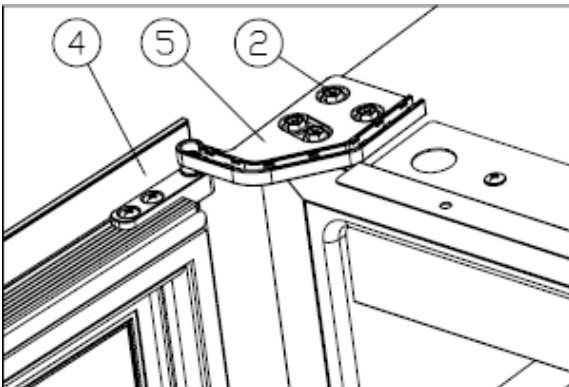

Figure 6
- ✧ Turn the door④ 180 degrees, and insert the right lower hinge, screw tight M5\*16 screws②. [Figure 6] Door reversing is finished.